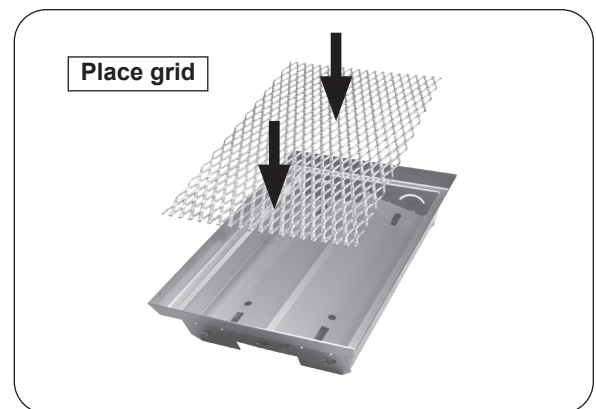

Fig. 33-2 Place grid inside basket
1. Place grid inside the basket frame (see Fig. 33-2).